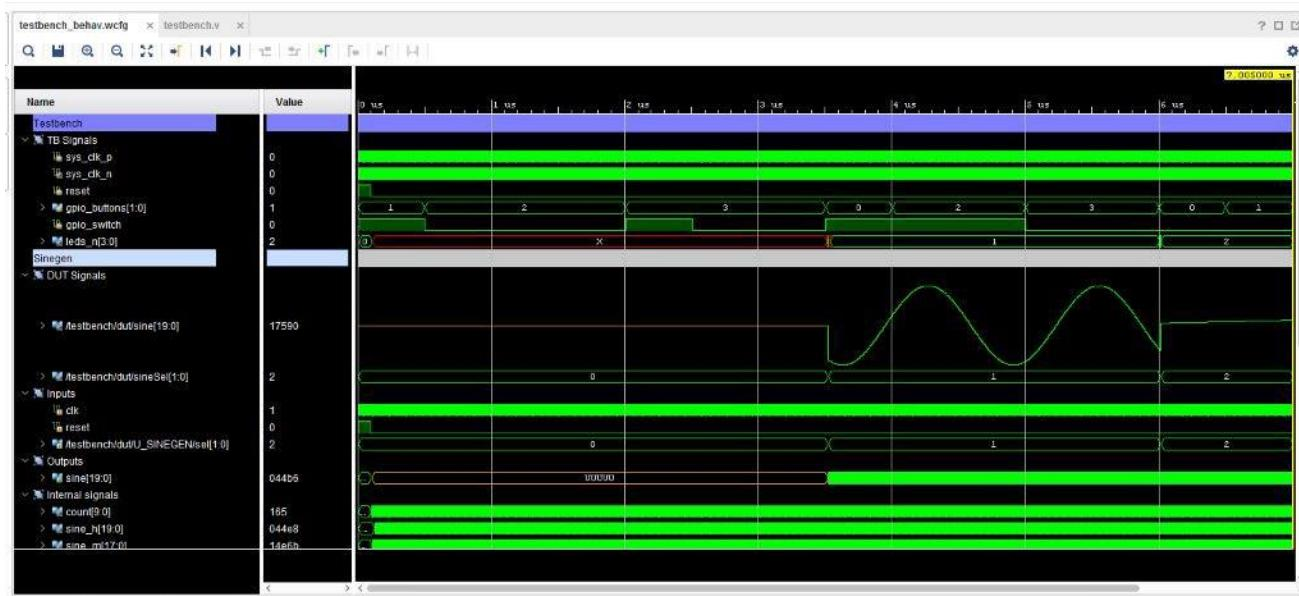

Figure 24: Simulation Waveform at Time 7005 ns
3. After the simulation is complete, click the **Zoom Fit** button ✕ to see the whole simulation timeline in the Waveform window. **Figure 24** shows the current simulation results.